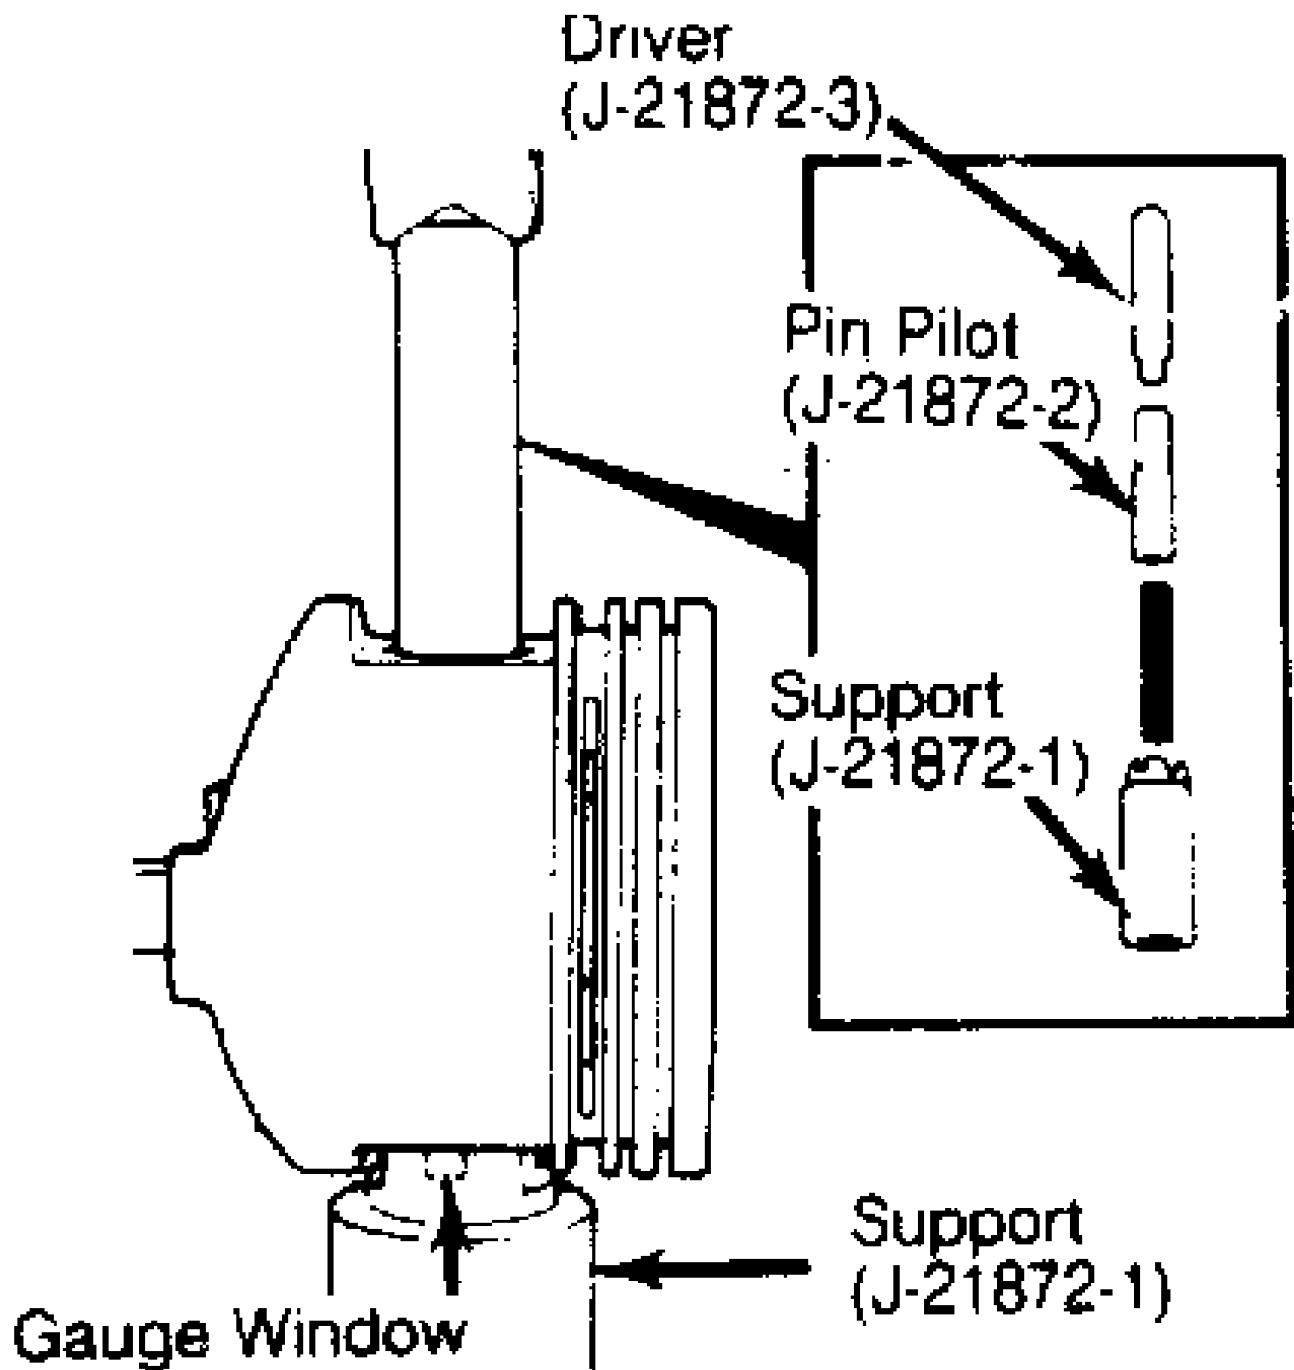

Fig. 6: Piston Pin Removal & Installation
Position piston on Support (J-21872-1), Pin Pilot (J-21872-2) and Driver (J-21872-3) on an arbor press. See Fig. 6. Press piston pin from piston.
1) Insert pin pilot through piston and connecting rod. Place assembly on support. Insert piston pin through the upper piston pin bore and into connecting rod pin bore. See Fig. 6.